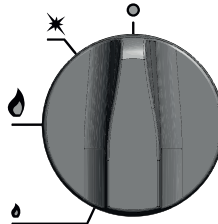

Figure 6. Setting a knob in the position, in which the gas supply to the burner is completely cut off.
- Make sure that all the knobs of the unused burners are in the „closed burner“ position (Fig.6). pilot knobs of stove burners are placed on the right side of the control panel (Fig.1, item 6).
- When the burner is not longer in operation, close the gas supply by turning the pilot knob clockwise to the „closed“ position (Fig. 6). **Attention! When using LPG, before switching off the burner with the knob, the cylinder valve must be closed!**